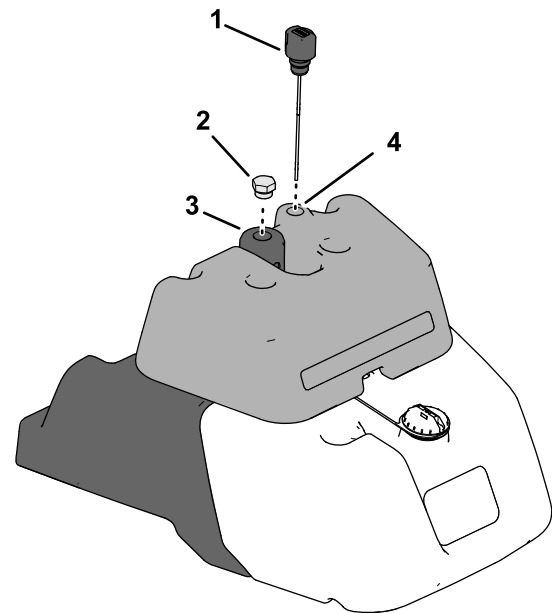

Figure 44
2. Check the hydraulic-fluid level by locating the dipstick for the hydraulic system at the top of the leak detector tank (Figure 44).